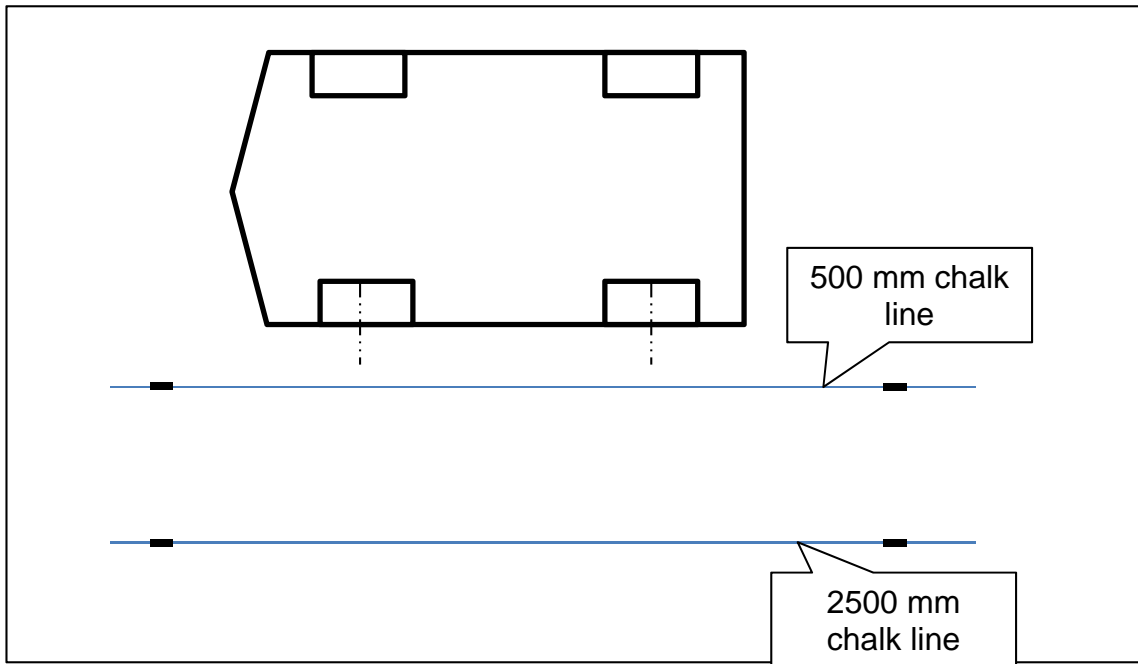
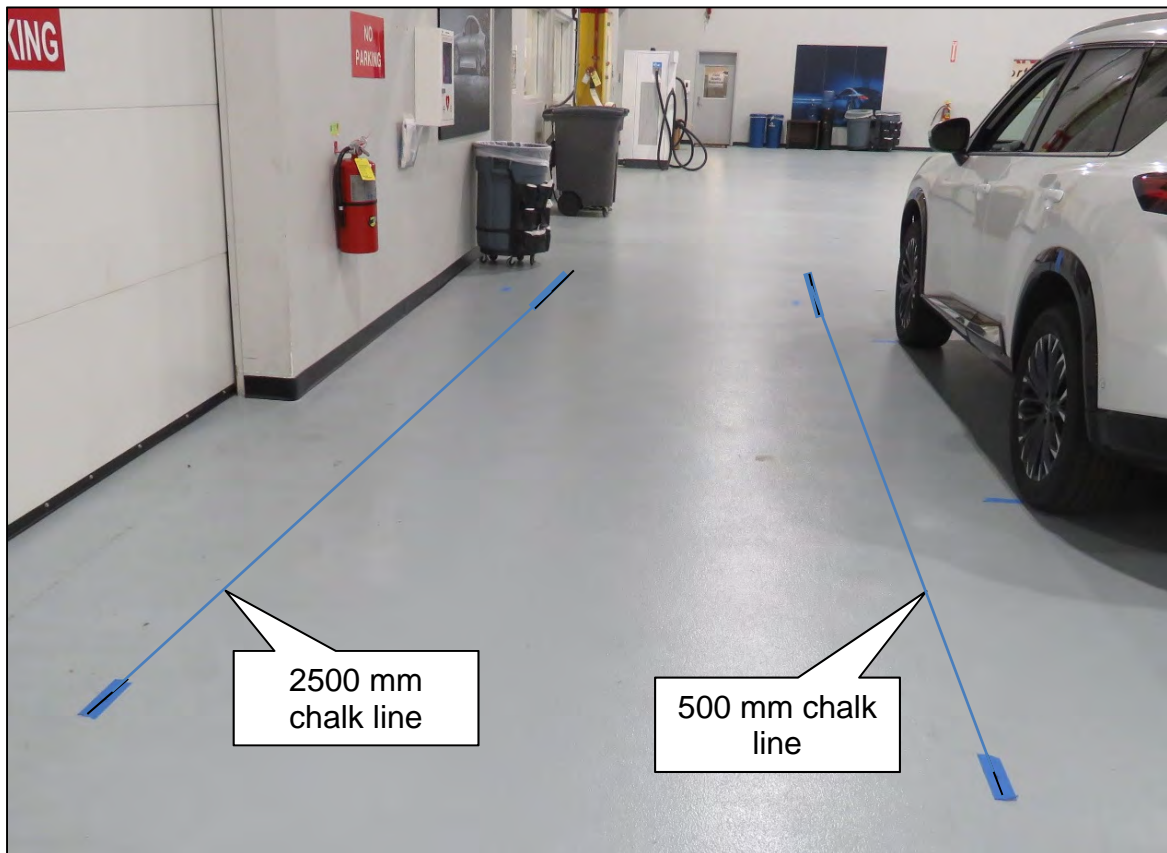

Figure 28
Figure 29
24. Use a chalk line tool to make a line between the 500 mm and 2500 mm marks, as shown in Figure 28 and Figure 29.